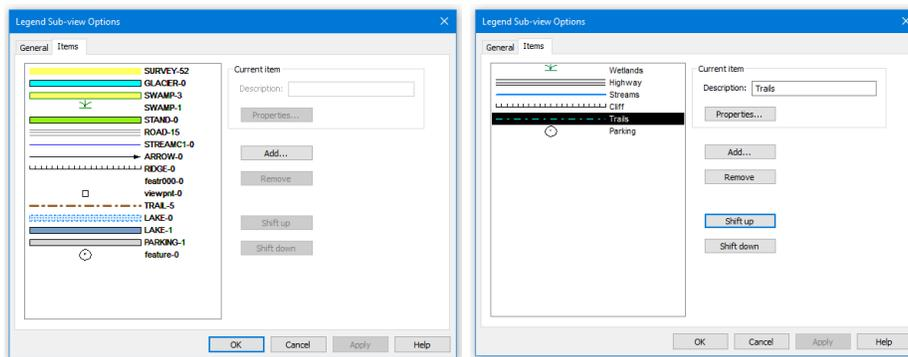

Figure 3-32: Legend Sub-View Options Dialogue Boxes
12. Re-size and re-position the legend directly below the plan sub-view and on the left side of the page as shown in Figure 3-32.